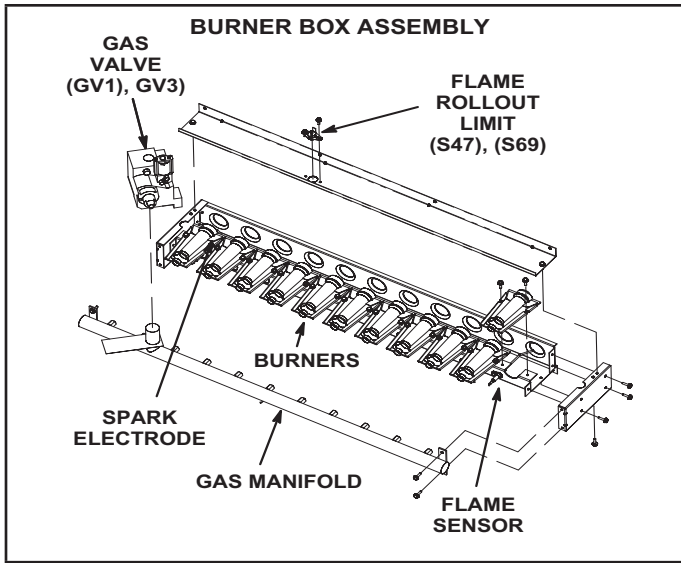

FIGURE 32
- 3 - Remove screws securing burners to burner support and lift the individual burners or the entire burner assembly from the orifices. See FIGURE 32. Clean as necessary.